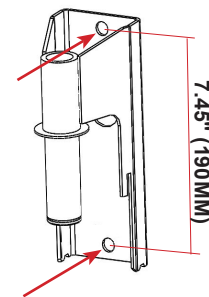

FIGURE 2.4 - Mounting Holes
- STEP 7:** Align the base plate, insert hardware and secure the base plate to the wall. Refer to FIGURE 2.4